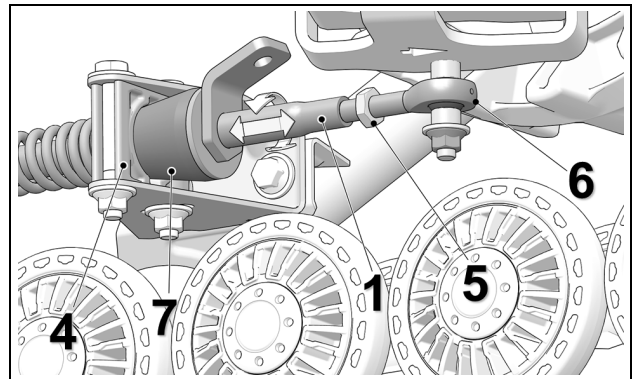

Figure 10
- Loosen jam nut (5). Turn stabilizing arm (1) to adjust length of rod end (6) so that rubber cone (7) applies light pressure on anti-rotation retainer (4). Figure 10.